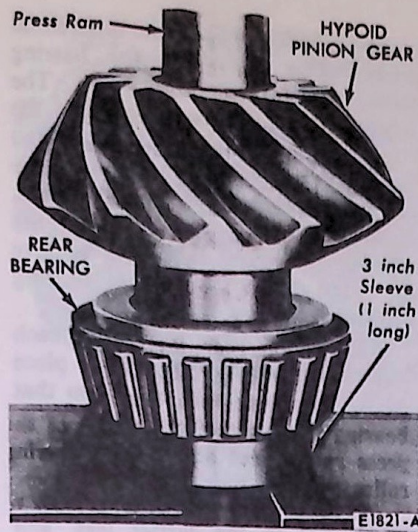

FIG. 22 Installing Hypoid Pinion Rear Bearing
1. Install the rear bearing on the hypoid pinion gear shaft against the gear shoulder (Fig. 22). Use a 3 inch sleeve about one inch long under the bearing race so that the thrust of the press ram is not against the bearing roller cage.